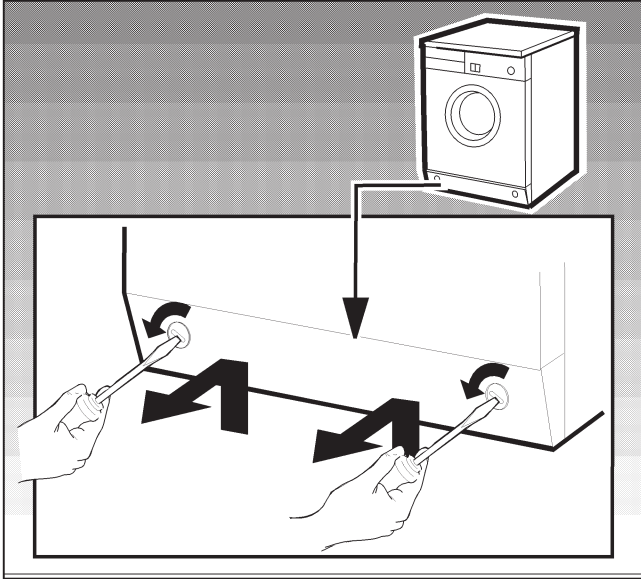

Figure 14.
The wrench provided in the accessory parts bag, may be stored behind the kick panel (refer to Figures 14, 15, 16):
1. Use a screwdriver, or coin, to turn the catches at the front so that the slots are horizontal and using two hands in the middle of the kick panel, lightly lift upwards as you pull the panel forward. See Figure 14.